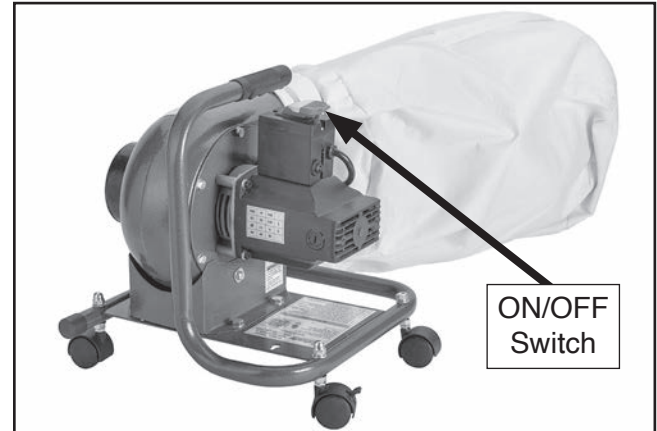

Figure 16. Location of ON/OFF switch.
4. Use ON/OFF switch to turn machine **ON** (see **Figure 16**), verify motor operation, and then turn machine **OFF**.